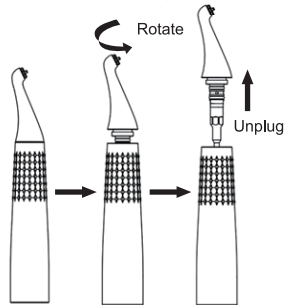

Figure 3
3.2.1 Spray-head: it can be pulled out by rotation. In case of blockage, the user can rotate the spray-head to loosen and pull out it, and then use the needle to dredge. It can be sterilized at high temperature, as shown in Figure 3.